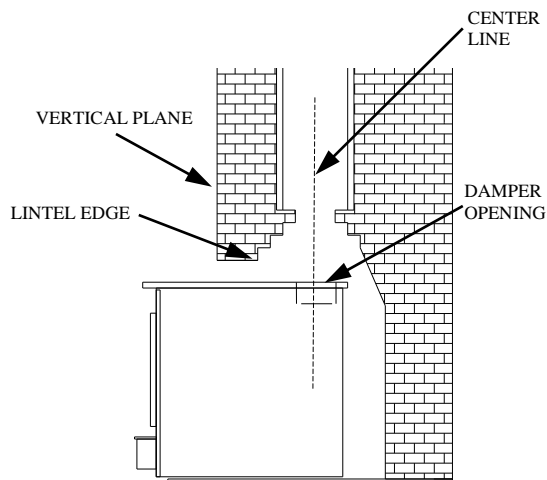

FIGURE 2 POSITIONING
When positioning heater, the following conditions **MUST** be met! (See Figure 2.)
1. The front of damper opening must be positioned **BEHIND** back edge of lintel to ensure proper draft. (See Figure 2.)